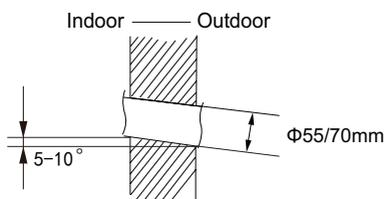

Fig.2
(2) Open a piping hole with the diameter of  $\Phi 55(70)\text{mm}$  on the selected outlet pipe position. In order to drain smoothly, slant the piping hole on the wall slightly downward to the outdoor side with the gradient of  $5\sim 10^\circ$ .(As show in Fig.2)